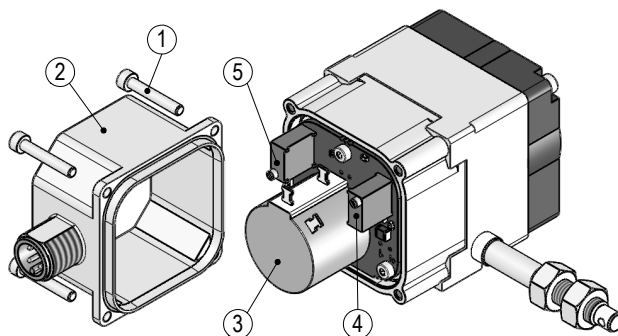

Fig. 12: Adjustment of the trimmpotentiometer MWIHP/R
Via two trim potentiometers Pe (3) and Po (4) (see Fig. 12) these values can be adjusted to the application's actual start and end position.